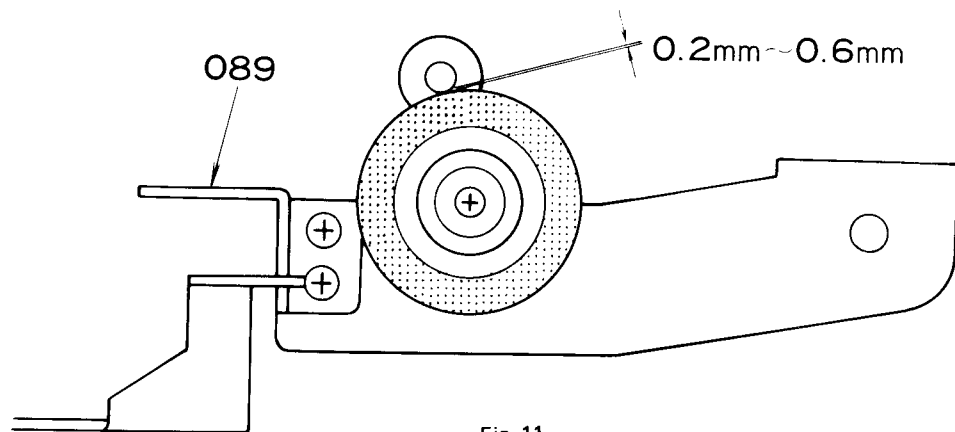

Fig. 11
*** PAUSE MECHANISM ADJUSTMENT (Refer to Fig. 11)**
- (1) Without power supply, shift the function selector knob (005) in playback position.
- (2) Pull in the pause button (007) to get the set in pause mode.
- (3) At the time, confirm that the distance between the capstan shaft and pinch roller is $0.2 - 0.6\text{mm}$.
- (4) If the value is out of this range, adjust tape lifter/shifter (089) by pliers.
- (5) When it is lower than the normal value, move it in the arrow direction in Fig. 11. When it is higher, move it in the opposite direction.